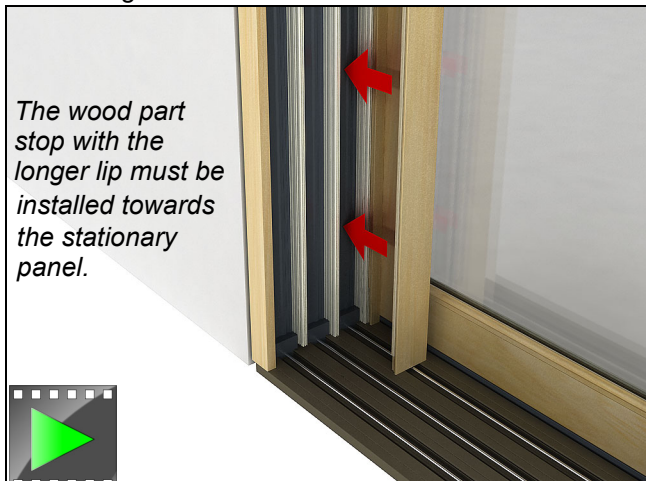

Figure 146
5. **Stacked units:** Install side jamb wood part stops onto stationary side jamb(s), starting with exterior most part stop. Tap in place using a soft rubber mallet, ensuring barb is inserted into proper kerf. See figure 146.